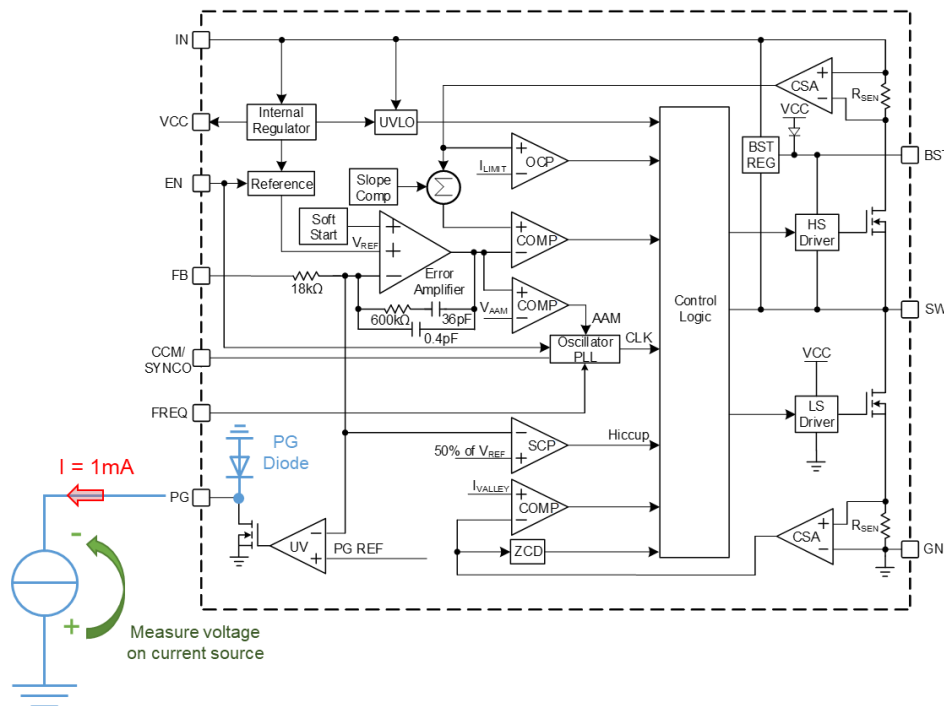
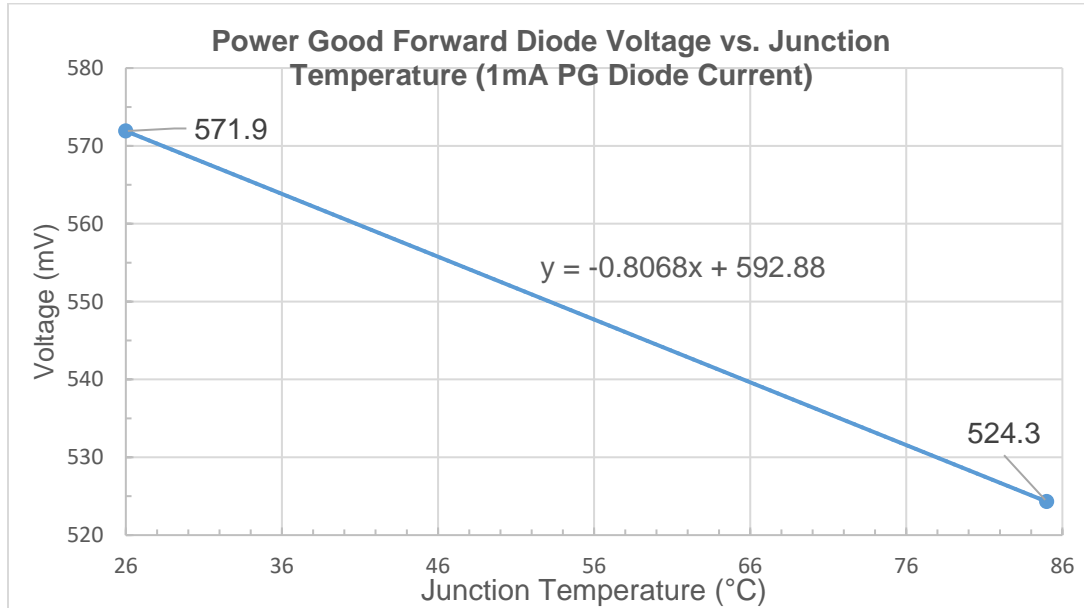

Figure 1: PG N-Channel MOSFET Body Diode in the MPQ4572
Figure 4: Measured Calibration Curve on the EVQ4572-QB-00A
Figure 1 shows the DC block diagram of MPS's MPQ4572, which uses a PG body diode. This device will be used as the example for this article.
The MPQ4572 is a fully integrated, fixed-frequency, synchronous step-down converter that can achieve up to 2A of continuous output current with peak current control. The device offers a 4.5V to 60V input voltage range to accommodate a variety of step-down applications. Apply a 1mA current source in the forward direction through the body diode (a part of the MOSFET) on the PG pin (see Figure 1).
3. Connect a precision multimeter with a built-in diode test function and a 1mA current source to the PG pin (see Figure 1 and 5). Smaller currents can be used, but the system must have the same current while it is calibrated and while measurements are taken.
Figure 4 shows a first-order PG forward diode voltage vs. junction temperature graph, which has a linear fit function. The PG diode is driven by the external 1mA current source shown in Figure 1.